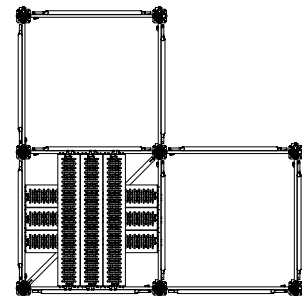

Fig. 13
- Connecting the scaffold assembly with other system components to form stable units. (Fig. 13)